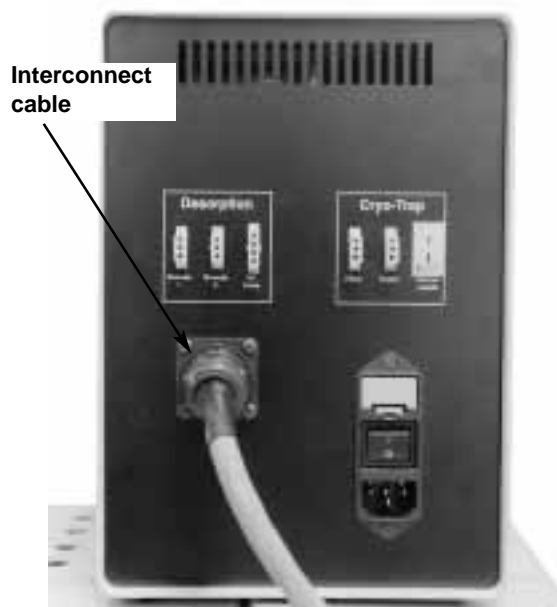

Fig 3.50 Installing the interconnect cable (782010).
22. Plug the interconnect cable (782010) into the appropriate connection on the back of the controller. See **Figure 3.50**.